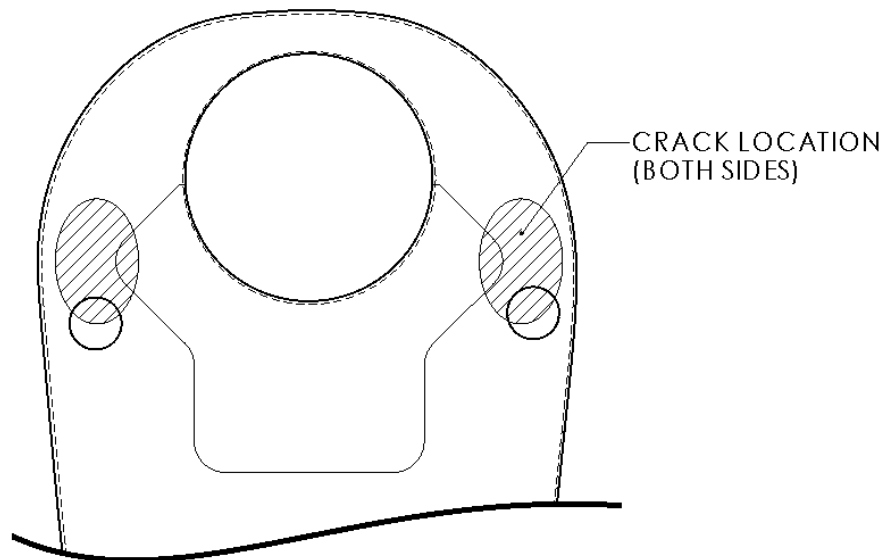

Figure 1. Crack Inspection Areas
- 5.1.1 Using a suitable light source, inspect the bulkhead in the areas shown in Figure 1.
5.2.3 Using a suitable light source and a mirror as required, inspect the interior surface of the bulkhead for cracks in the areas indicated in Figure 1.
5.2.4 Using a 10-power magnifying glass and a suitable light source, inspect the exterior surface of the bulkhead for cracks in the areas indicated in Figure 1.